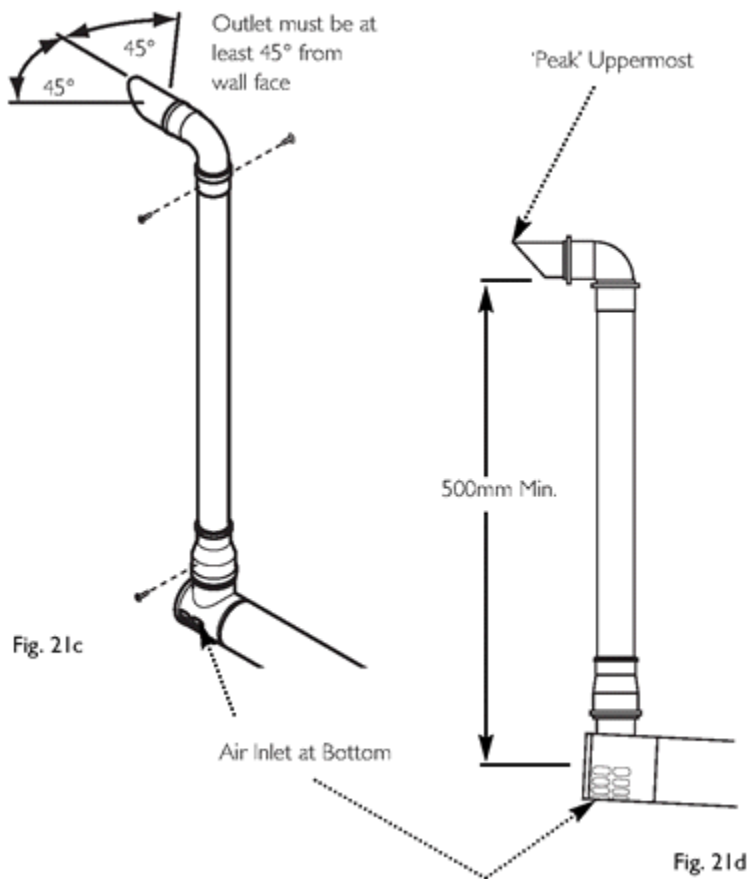

Fig. 21c & Fig. 21d
3. The plume outlet must always be at least 45° to the wall, with the 'peak' uppermost to prevent rain entry (Figs. 21c & 21d), and be at least 2 metres above g